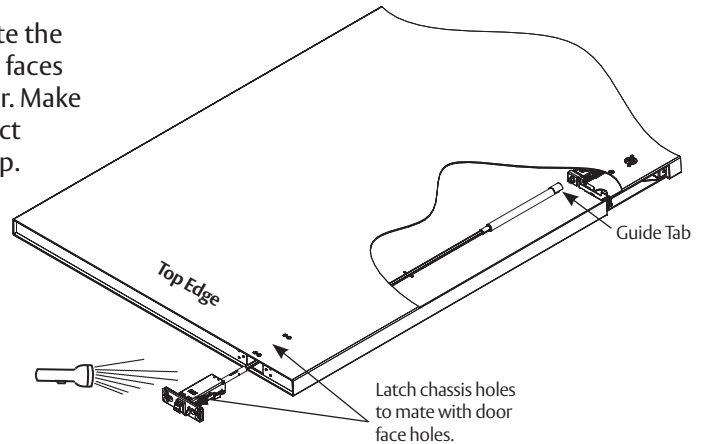

Figure 39
- Orient the latch chassis as shown. Rotate the rod and rod guide so the rod Guide Tab faces up. Slide the rod assembly into the door. Make sure the rod guide remains in the correct orientation with the Guide Tab facing up. (Figure 39)